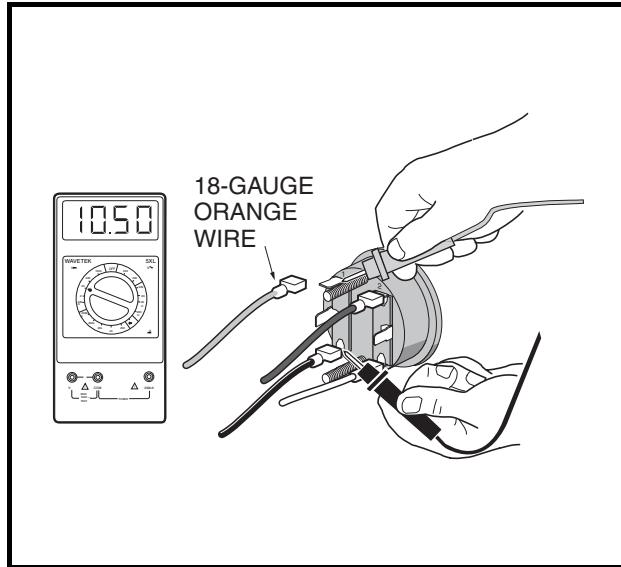

Figure 11-35 Test Fuel Gauge Continuity
6. Set a multimeter to 20 volts DC and place the red (+) probe of the multimeter on the (2) terminal of the fuel gauge/hour meter with the blue wire. Place the black (–) probe on the (3) terminal of the fuel gauge/hour meter with the black wire (**Figure 11-35, Page 11-34**).
8. Turn the key switch ON. The voltage reading should be the same as the battery voltage reading recorded earlier. If not, check the continuity of the blue and black wires (**Figure 11-35, Page 11-34**).